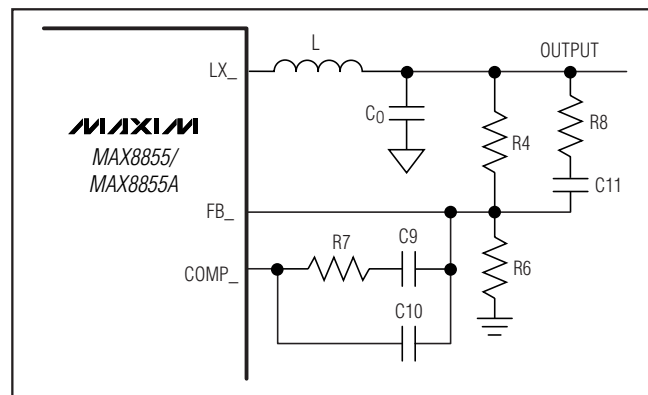

Figure 4. Type III Compensation Network
The output voltages for regulator 1 (with REFIN connected to SS1) and regulator 2 are set with a resistor voltage-divider connected from the output to FB_ to GND as shown in Figure 4. Select a value for the resistor connected from output to FB_ (R4 in Figure 4) between 2kΩ and 10kΩ. Use the following equations to find the value for the resistor connected from FB_ to GND (R6 in Figure 4):
The high-switching-frequency range of the MAX8855/MAX8855A allows the use of ceramic output capacitors. Since the ESR of ceramic capacitors is typically very low, the frequency of the associated transfer-function zero is higher than the unity-gain crossover frequency, f_{C} , and the zero cannot be used to compensate for the double pole created by the output filtering inductor and capacitor. The double pole produces a gain drop of 40dB and a phase shift of 180° per decade. The error amplifier must compensate for this gain drop and phase shift to achieve a stable high-bandwidth closed-loop system. Therefore, use type III compensation as shown in Figure 4. Type III compensation possesses three poles and two zeros with the first pole, $f_{\text{P1_EA}}$, located at 0Hz (DC). Locations of other poles and zeros of type III compensation are given by: